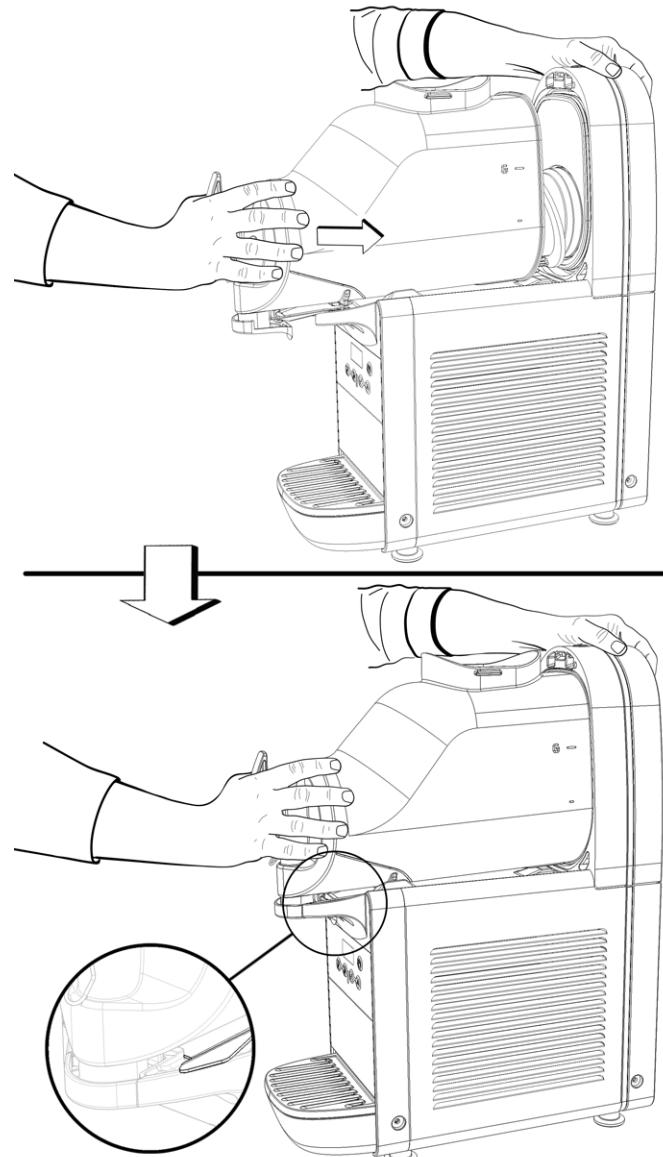

figure 19
- 6 Replace the container by pushing it towards the back wall, making sure it fits properly onto the gasket. The locking lever will be lowered until it rests on the drip tray surface (see figure 19).